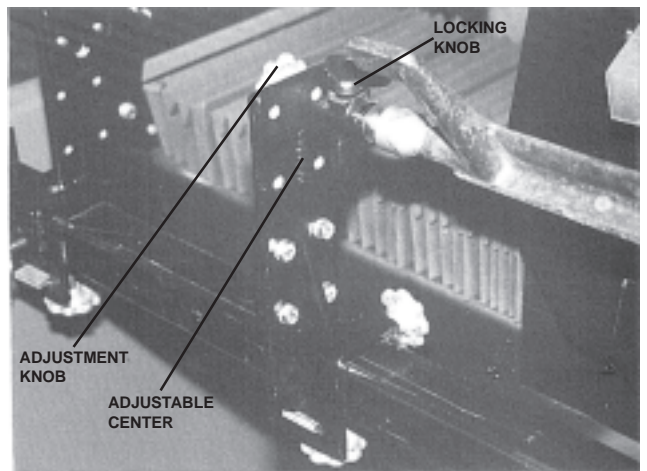

FIG. 10
4. Turn the adjustment knob on the adjustable center until the bedknife is firmly mounted between the centers. When complete, lock the adjustable center locking knob. See FIG. 10.